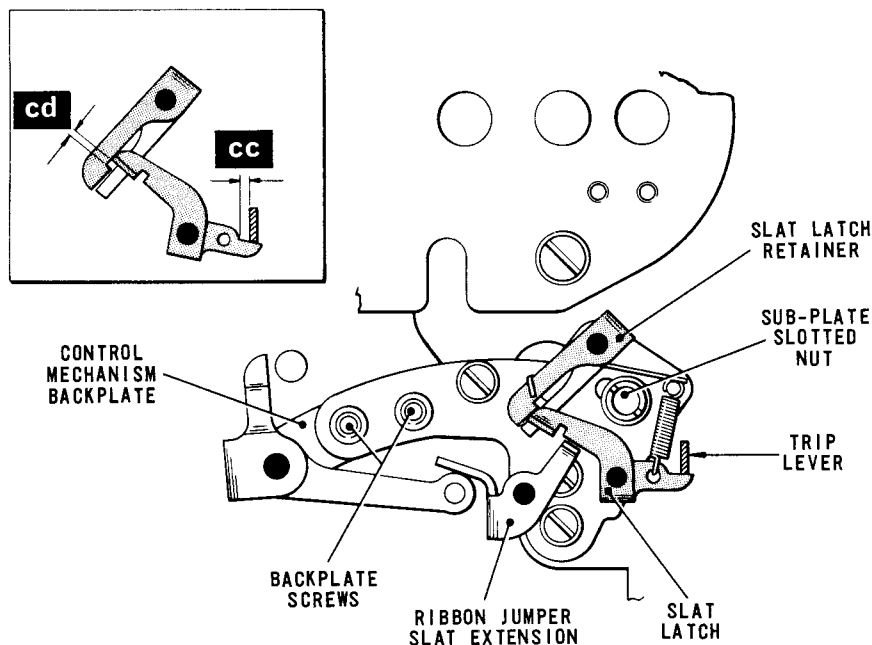

Fig. 4.92 TWO-COLOUR PRINTING—LATCH MECHANISM
- (b) *If no external source of signals is available, it is possible to simulate an incoming message by slackening the screw clamping the trip lever, Fig.4.92, to the lag weight release shaft and swinging the lever clear of the slat latch. Clamp the lever in this position, run out a line of letter 'Q' and check that the characters are now printed wholly in black. If this method of simulating an incoming message is used, it will be necessary to re-adjust the position of the trip lever on completion of the check. Adjustments 115.4(k) to (m) refer.*
- (a) If it has not been done already, slacken the screw clamping the trip lever, Fig.4.92, to the lag weight release shaft and move the lever clear of the slat latch.
- (c) Using a tommy pin, slacken the two screws securing the control mechanism backplate, Fig.4.92, and move the backplate to the limit of its movement towards the front of the machine. Lightly clamp the screws securing the backplate.
- (g) Lift the ribbon jumper slat so that its extension, Fig.4.92, is held by the slat latch and the hook on the lift link, Fig.4.93, moves down and rests against the bottom of the lift link stop. Press the typehead casting forward so that the typehead moves towards the platen and check that the selected character is now centrally positioned with respect to the upper (black) portion of the ribbon. To adjust, slacken the screws securing the lift link stop until friction tight and reposition the stop until the condition is satisfied. Tighten the stop screws.
- (h) With the lift link latched under the edge of its stop, check that there is a clearance of .016 - .025 in. (dimension 'cb' - inset 2) between the pin on the ribbon lift lever and the horizontal face of the hook on the lift link. To adjust, slacken the sub-plate slotted nut, Fig.4.92, and the locknut of the lift lever eccentric, Fig.4.93. Reposition both the sub-plate and the eccentric until dimension 'cb' is obtained. Tighten the slotted nut and the eccentric locknut. Obtain the final setting with both adjustments as near the centre of their movements as possible.
- (k) Position the trip lever, Fig.4.92, so that it just touches the slat latch and is approximately .015 in. (dimension 'cc' - inset) clear of the corner of the latch. Return the machine to the rest position.